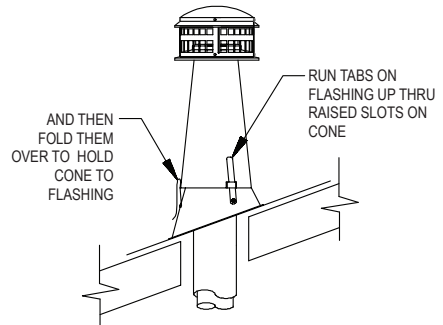

Figure 18
**6. Top Cone.** Slip the Top Cone over the Flashing, so the vertical straps on the Flashing coincide with the slots at the base of the Cone. Slip the straps up through the slots as shown in **Figure 18**. Adjust the Top Cone to a generally vertical position. Holding the Top Cone in position, bend the straps down as shown.